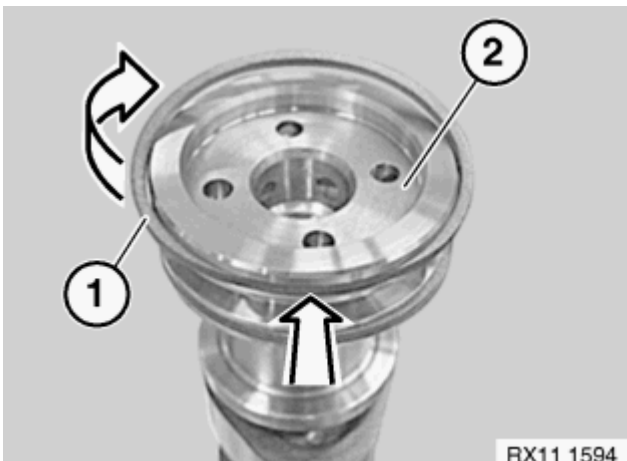

Fig. 447: Installing Plastic Plain Rectangular Compression Ring
Insert plastic rectangular compression ring (1) into groove of exhaust camshaft (2) (see arrow in **Fig. 447**). Lightly oil plastic rectangular compression ring (1) and rotate in direction of arrow until compression ring (1) is positioned on the exhaust camshaft.